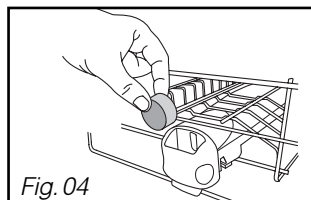
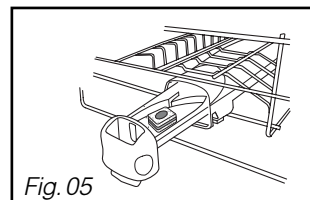

Fig. 04
Fig. 05
Non-multipurpose tablets should be placed in the external compartment (Fig 04) or, for optimum performance, pull out the dispenser drawer and lay the tablet inside (Fig 05).
- **Place the tablet** in the external compartment (Fig 04 on previous page) or, for optimum results, pull out the distributor's drawer and lay the tablet inside (Fig 05 on previous page).